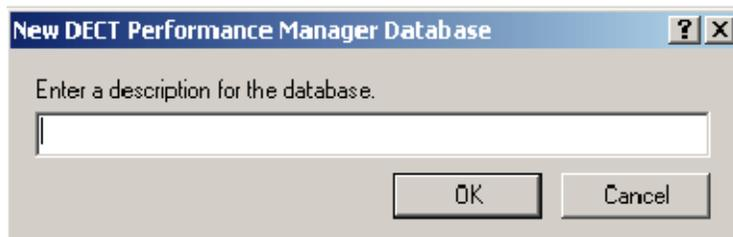

Figure 209: New DECT Performance Manager Database description dialog box
3. Enter a description for the database. See Figure 209: New DECT Performance Manager Database description dialog box on page 299.